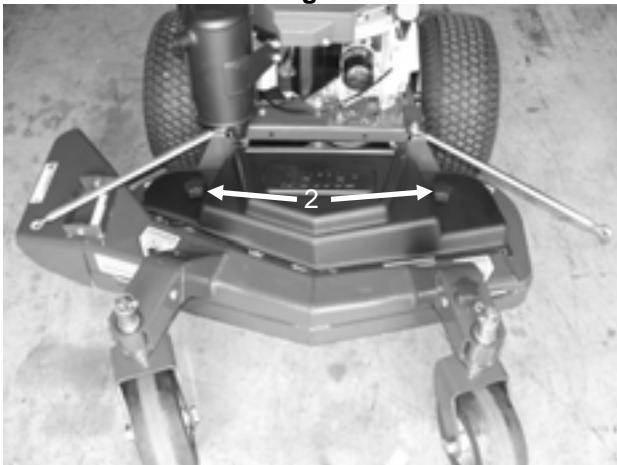

Figure 11
1. Remove caster arm reinforcement strut knobs and rotate struts to the side **Figure 11**.